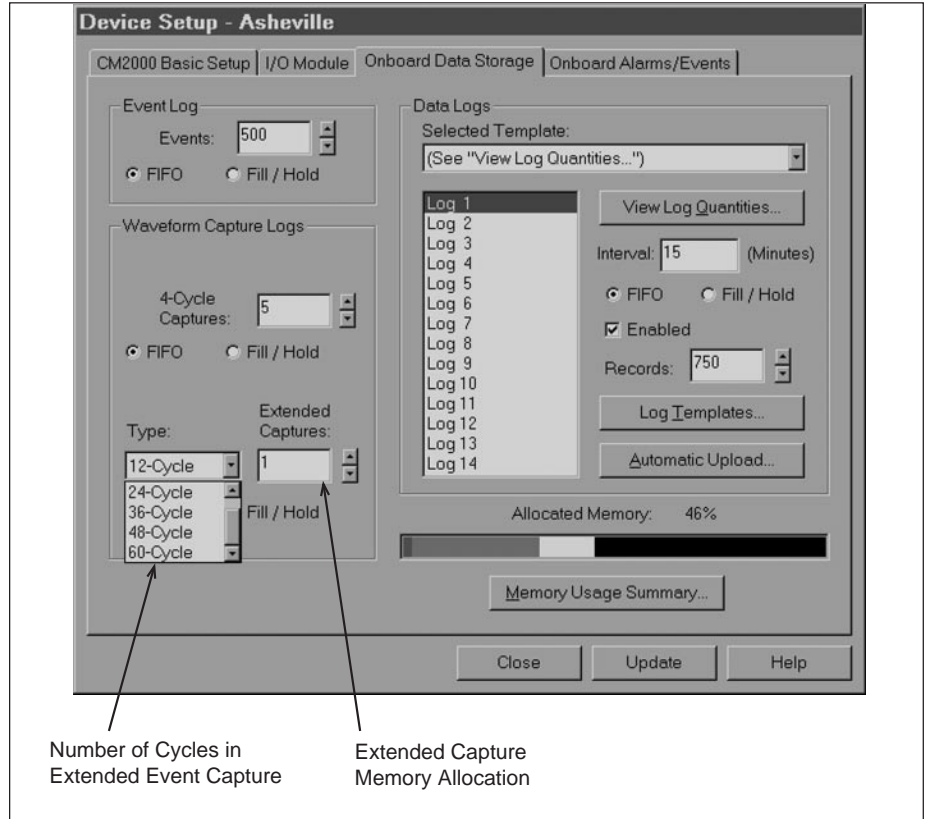

Figure 7-3: POWERLOGIC System Manager
1. In the Onboard Data Storage screen (figure 7-3), select the number of cycles for extended capture from the pull-down menu.